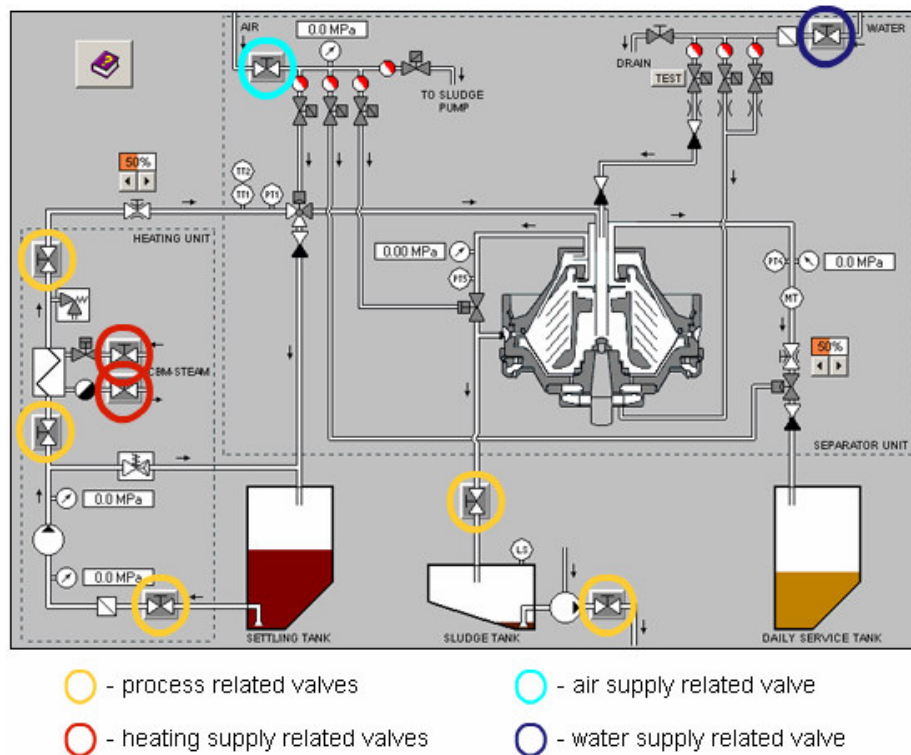

Fig. 4. Valves
1. Before start up make sure that the air supply related valve before the Air Valve Block is open (fig.4). Use the pressure gauge to check that the air supply is correct (5 -7 Bar).
2. Make sure that the water supply related valve before the Water Valve Block is open (fig.4).
3. Make sure that all **process related valves** are open. Open also **heating media supply valves** (fig.4).